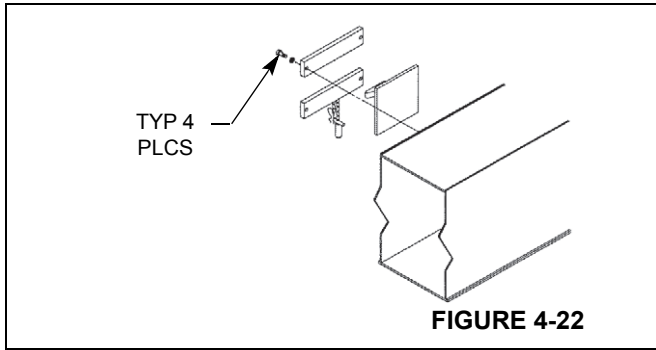

FIGURE 4-22
2. Loosely bolt the hook assembly to the side of the first boom section, Figure 4-22.